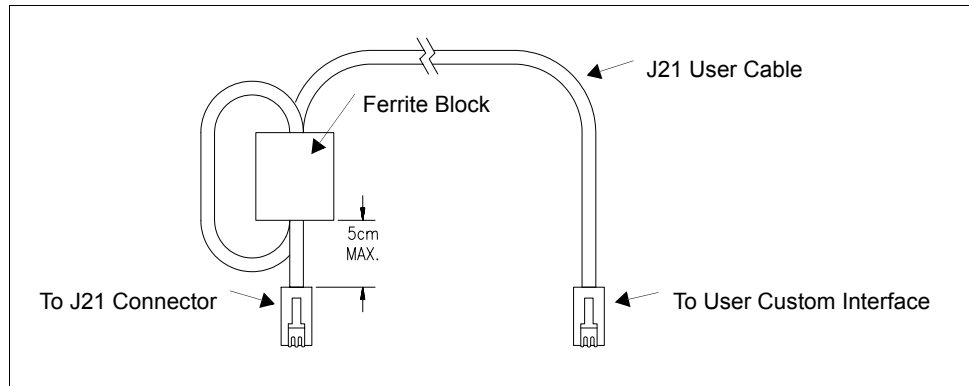

Figure 2.7 J21 User Cable with Ferrite Block
3. Loop the cable through the ferrite block. See Figure 2.7, "J21 User Cable with Ferrite Block" on page 32.